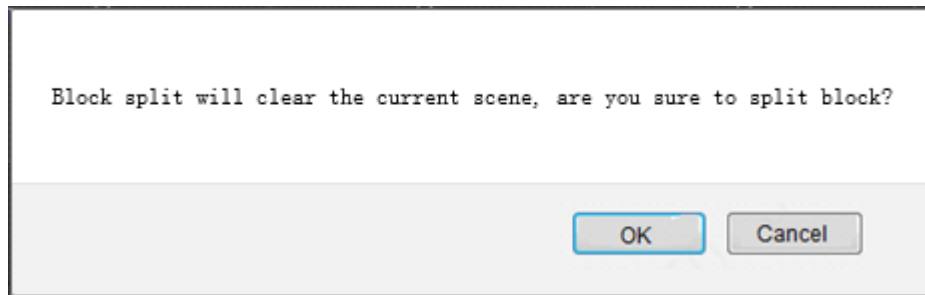

Figure 3-14
- The system displays a prompt box, as shown in Figure 3-14.